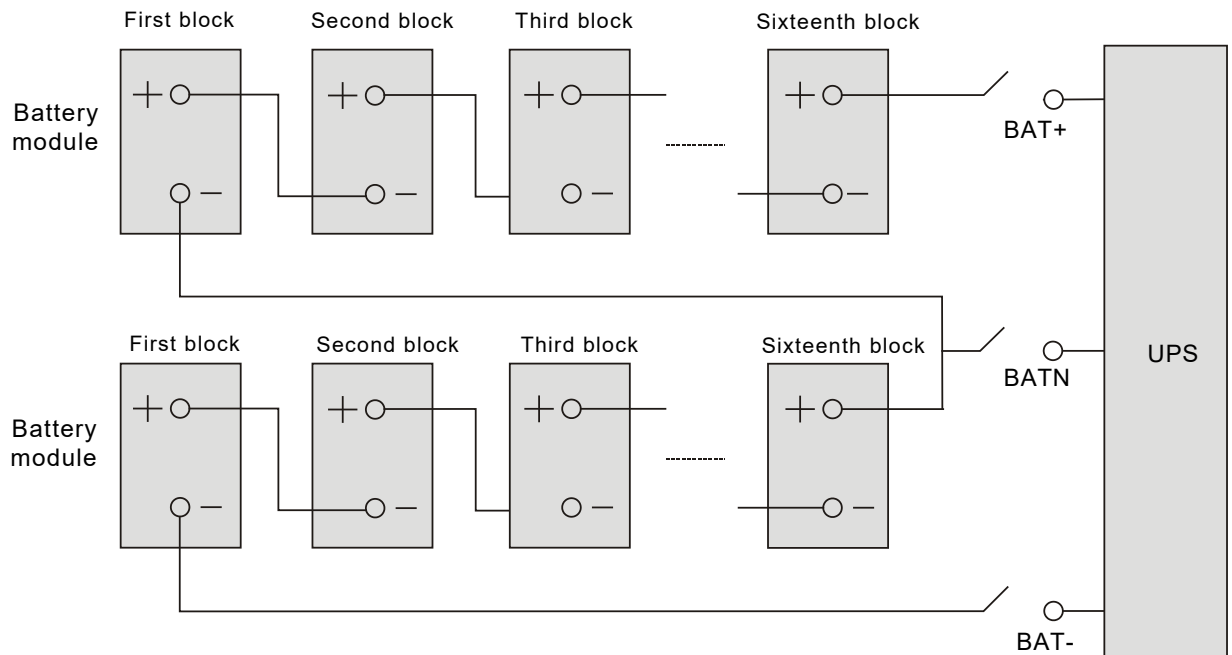

Figure 2-16 Battery string connection principle diagram
The default battery number of the UPS is 32-block (16-block for positive and 16-block for negative). The external battery string connection principle diagrams of the self-distribution are shown in Figure 2-16. The required battery backup time (i.e. the time for battery to supply load upon mains failure) is subject to the ampere-hour value of the battery. Sometimes, it is necessary to connect several strings of battery in parallel.
1. *As shown in Figure 2-16, one DC battery MCB must be added between the battery strings and the UPS.*